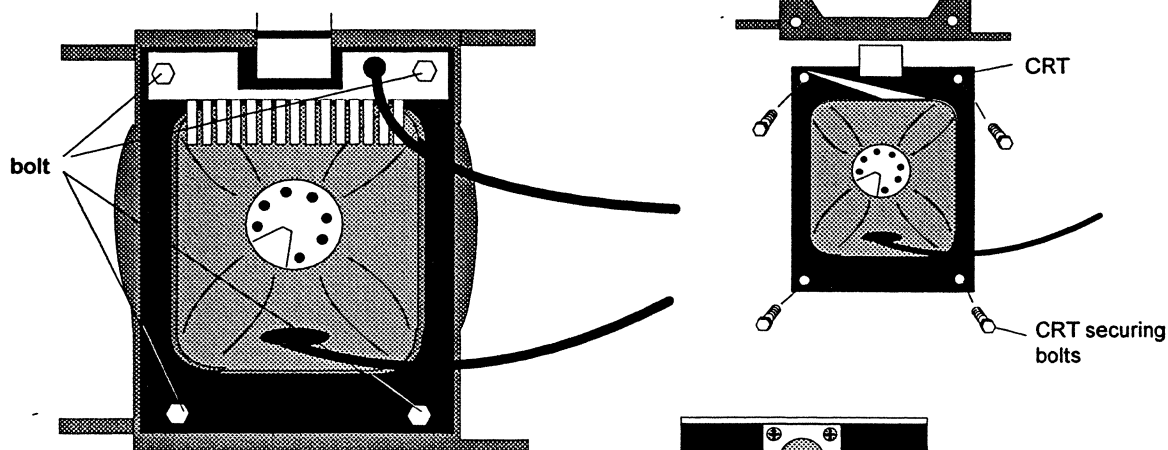

Fig.7
2. Mounting the picture tube in its support (fig 7)